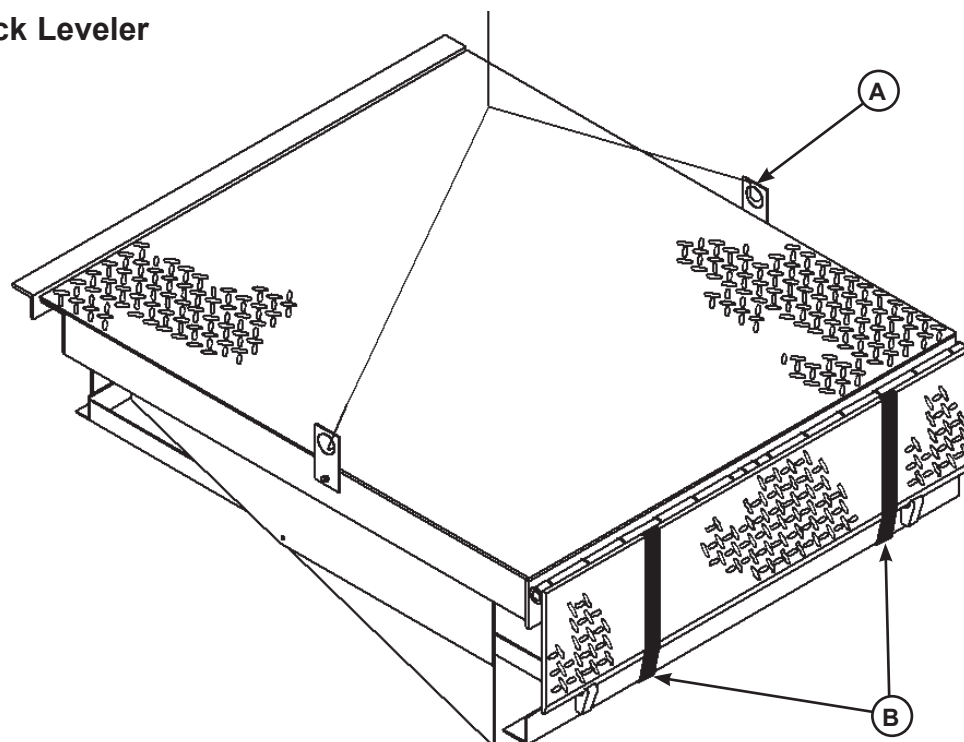

Figure 6
NOVA Technology International dock levelers are shipped with lifting brackets (A) fastened to the platform side joists, and shipping bands (B) around the platform lip and leveler frame (see Figure 6).